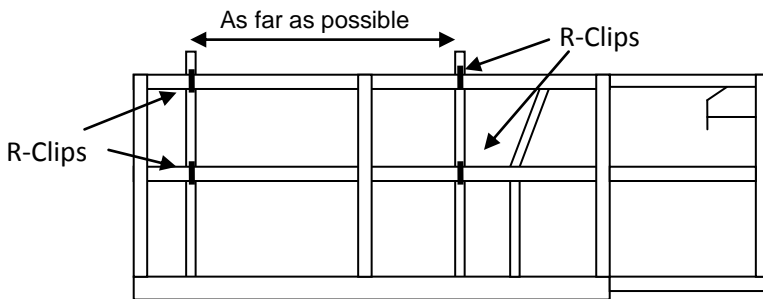

Figure 1.2 Heavy Pipe Lifter attachment installation – Deck extended
4. Lift Attachment should be secured to the side of scissor lift with given R-Clips & Handrail Saddles to be used in the main deck area only as per figure 1.2 & 1.3